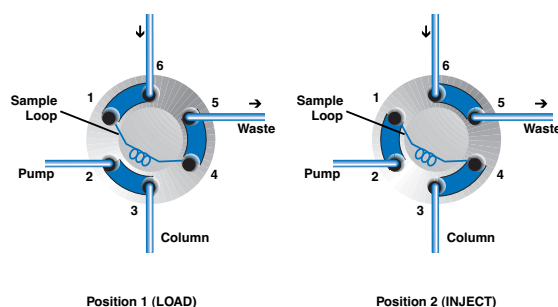

Fig. 7. Two-Position Six-Port sample injection valve.
1. Plumb the six-port valve, used as an injection valve, as diagramed in Figure 7. Connect a sample loop (not supplied) between Ports 1 and 4. Before connecting the column to the valve, flush mobile phase through the valve in both positions. After flushing the valve, turn back to Position 1 (LOAD) and connect the column.